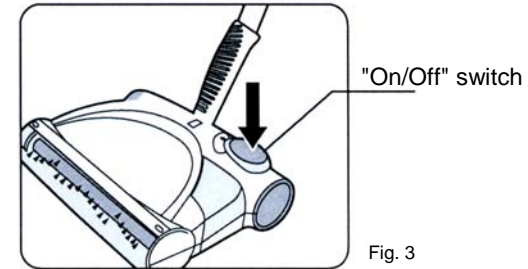

Fig. 3
2. Push the On/Off switch to operate the unit. To turn off, press switch again. (Fig.3)